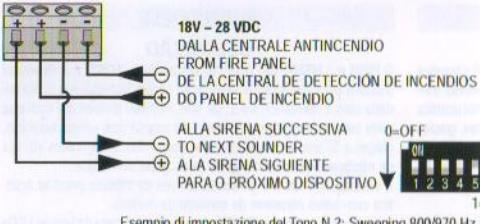

Fig. 3 Collegamenti e Microinterruttori / Connections and Microswitches
2. Mark the position of the holes (8) for the fixing of the base (3) to a wall.
4. Pass the cables for the connections through the openings (7) in the bottom of the base (13). If the lateral openings (6) are being used, select suitable fittings for the tubing to the system.
5. Fix the base (3) using the screws (not supplied).
6. Make the connections on the terminal board (9).
7. Select the tone to be used (see Table 1), using the microswitch (10). As in figure 3 the selected tone is No 2 Sweeping 800/970Hz at 7Hz.
8. Adjust the volume using the trimmer (11), see Fig. 3.
For the connections on the device's terminal board (9), please see Fig. 3. For connection to the Unit, use the NAC terminals (supervised polarized output), as shown in Fig. 4. The device has an internal diode for isolation during the inversion of polarity on the NAC terminals in rest conditions; it is not therefore necessary to connect the diode externally.
8. Ajuste o volume usando o dimer (11). Consulte a Fig. 3.
Para as conexões na placa de terminal do dispositivo (9), consulte a Fig. 3. Para conexão à unidade, use os terminais NAC (saída polarizada supervisionada), como mostrado na Fig. 4. Os dispositivos possuem um diodo interno para isolamento durante a inversão de polaridade nos terminais NAC em condições de repouso, portanto, não é necessário conectar o diodo externamente.